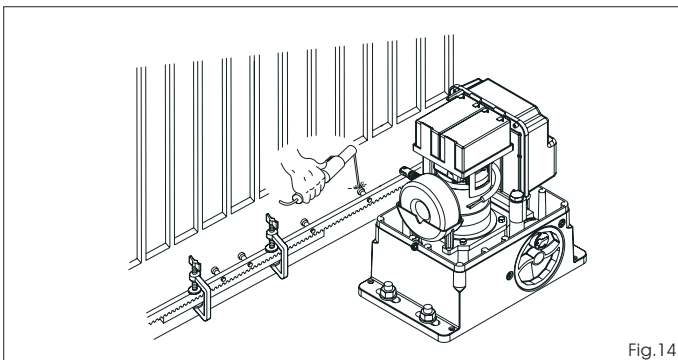

Fig. 14
- 5) Position another rack element end to end with the previous one, using a section of rack (as shown in Fig. 14) to synchronise the teeth of the two elements.
- 5) Position another rack element end to end with the previous one, using a section of rack (as shown in figure 14) to synchronise the teeth of the two elements.